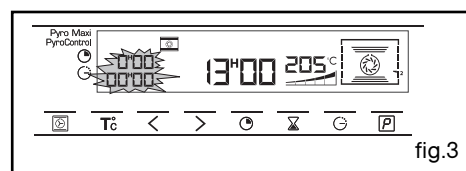

fig.3
- the cooking time indicator and 00:00 both flash (fig.3),